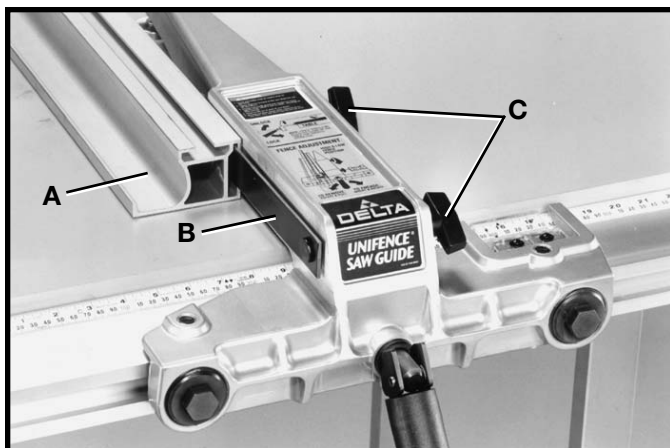
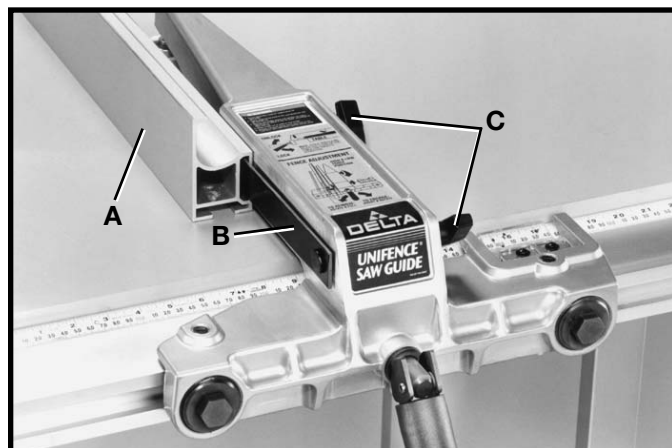

Fig. 74
Fig. 75
1. The fence (A) can be assembled to clamp plate (B) in either the horizontal position as shown in Fig. 74, or the vertical position as shown in Fig. 75. Make certain the two lock knobs (C), are loose and slide fence (A) onto clamp plate (B) as shown. Then tighten the two lock knobs (C).